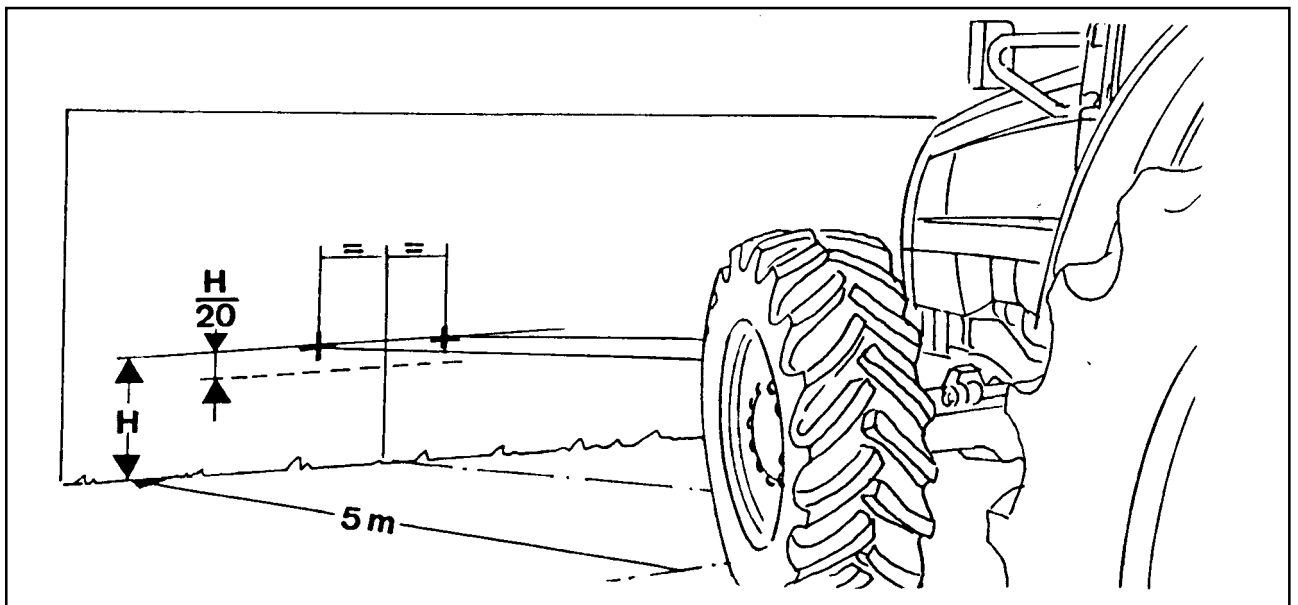

Fig. 5-45
- Halt the tractor on level ground facing a shaded wall (preferably white). The tractor must be unloaded and the tyres correctly inflated. Mark two crosses on the wall in front of the tractor headlights (Fig. 5-45).